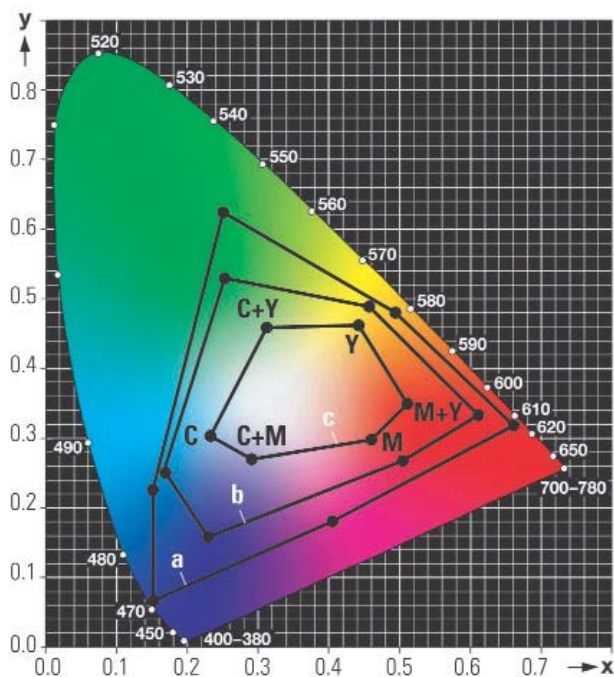
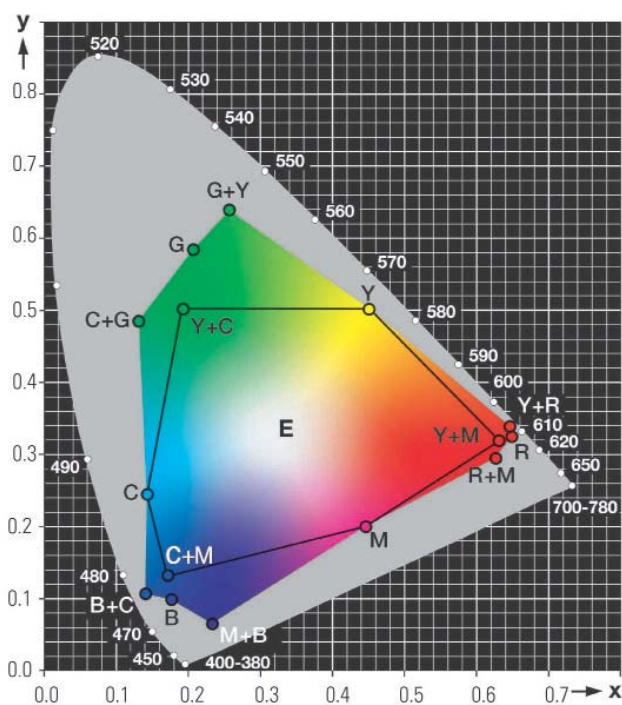

Figure 1. The CIE colour triangle with the colour spaces of a transparency (a), high quality offset (b) and newsprint (c).
Figure 2. The CIE colour triangle with the colour space of Opaltone for offset.
What makes Opaltone so special? In fact, it is the choice of the extra colours. They have been chosen in such a way, that they extend the colour space at those places where the standard three colours, cyan, magenta and yellow show their greatest limitations. The two CIE-colour triangles of Fig. 1 and Fig. 2 illustrate this. Fig. 1 displays the colour spaces of a transparency, high quality offset and newspaper printing. Fig. 2 reproduces the colour space of Opaltone in offset. Opaltone adds to the secondary colours cyan-yellow (green), yellow-magenta (red) and magenta-cyan (blue) the true colours green (G), red (R) and blue (B).